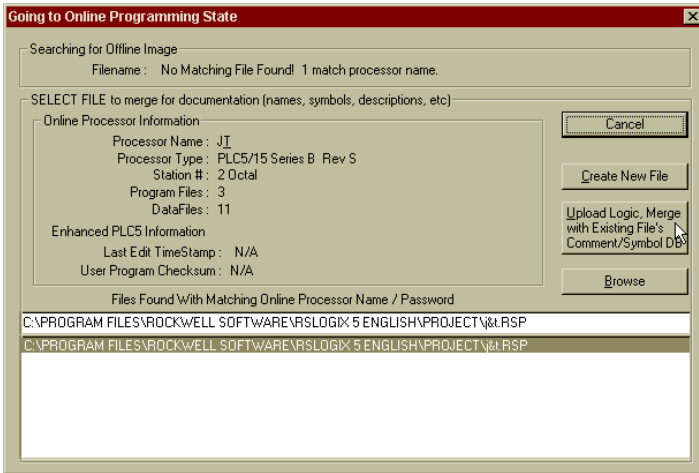

FIG. 4-3 UPLOAD DISPLAY/UPLOAD EXISTING LOGIC
- Step 3. Click on Upload. The Upload display appears. (See Fig. 4-3)